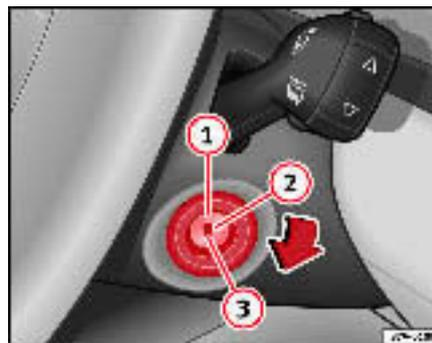

Fig. 125 Ignition key positions
In position  $\Rightarrow$  fig. 125  the ignition is switched off, and the steering wheel lock can be engaged.
- Turn the ignition key to position ⇒ page 162, fig. 125  to start the engine.
- Turn the ignition key to position ⇒ page 162, fig. 125 ②. The warning lamp  lights up to show that the glow plugs are preheating the engine.
- When the warning lamp goes out, turn the key to position ③ to start the engine. Do not press the accelerator.
- Turn the ignition key to position ⇒ page 162, fig. 125 ①. ▶